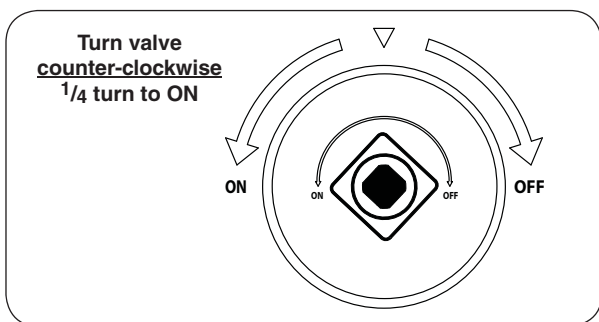

Fig. 41-2 ON/OFF key valve detail
2. Turn the ON/OFF key valve counter-clockwise a 1/4 turn to the **ON** position (Fig. 41-2).